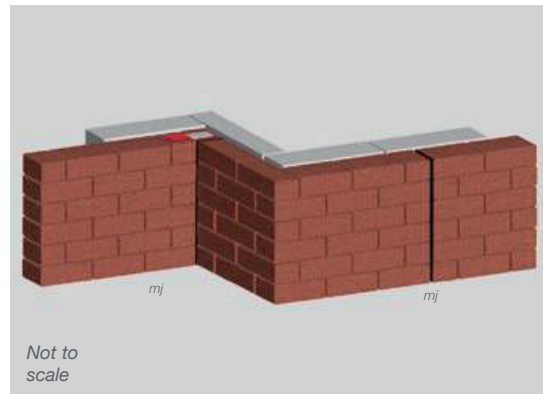

Figure 12a.
Figure 11d shows suggested locations in typical linked properties. The longer elevation should butt up to the shorter return. See Figure 12a.
- Joints can be incorporated at internal junctions if required. See *Figure 12a*.